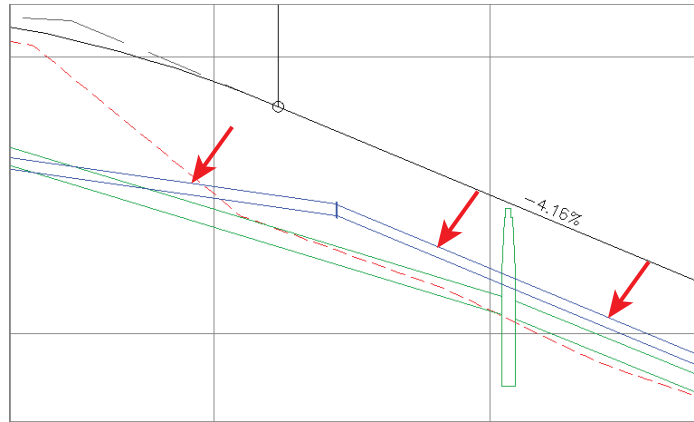

FIGURE 15.4 Pressure network parts (indicated with red arrows) shown in profile view along with other profile information
8. Click one of the grid lines of the Madison Lane profile view in the top-right viewport. The waterline parts are displayed in the profile view, as shown in Figure 15.4.